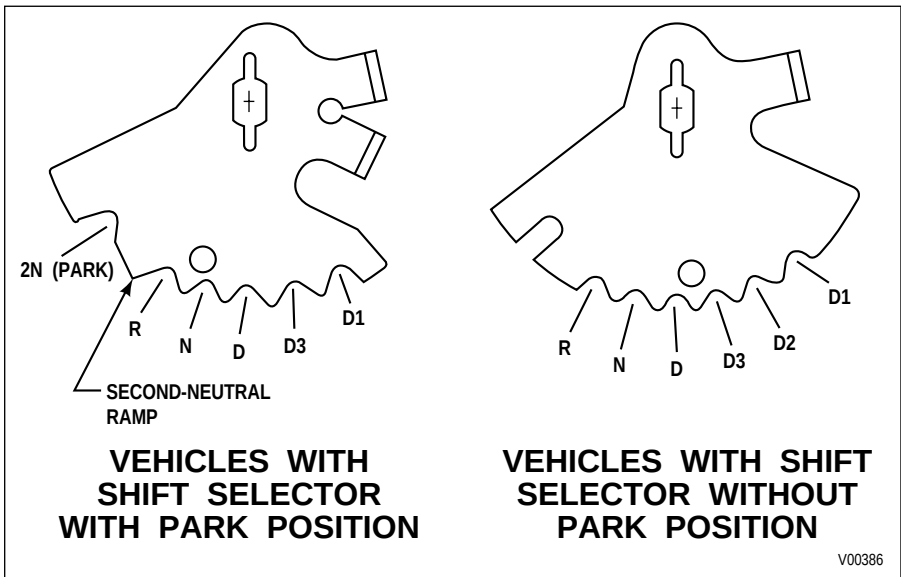

Figure 5-4. Identification of Internal Selector Levers
- Place the operator's shift selector control at the **N** (Neutral) position. Place the selector lever (hidden inside the transmission pan) in the **N** (Neutral) position by one of the following two methods (Figure 5-4):